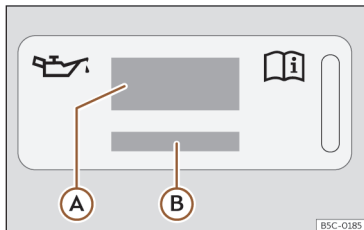
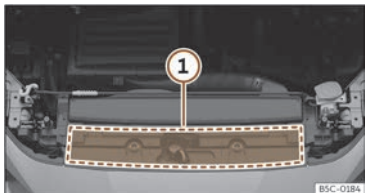

Fig. 226 In the engine compartment: engine oil label
Fig. 227 In the engine compartment: area where the engine oil label is located
Key to >>> **Fig. 226:**
If the engine oil has to be topped up, use one of the oils shown on the label >>> **Fig. 226**. The label with the prescribed standard is located at the front of the engine compartment >>> **Fig. 227** **1**. If you use the recommended engine oil, you can top up the oil as often as necessary.
- If the label showing the engine oil specifications is missing >>> Fig. 226, please contact a specialist workshop.